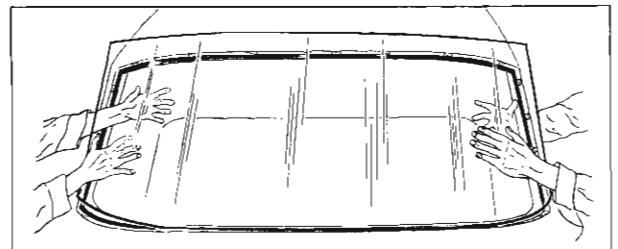

Fig. 11-20 Windshield Installation
7. With aid of helper, lift glass with one hand on outside of glass and one hand on inside of glass. Carefully set glass against lower center spacer or adhesive caulking bead, maintaining glass in a near-vertical position. While one man holds glass in this position, the second man can reach around the windshield pillar and hold glass; then, first man can reach around windshield pillar (Fig. 11-20). Carefully position glass into opening, making certain that glass is properly centered and positioned on lower spacers.